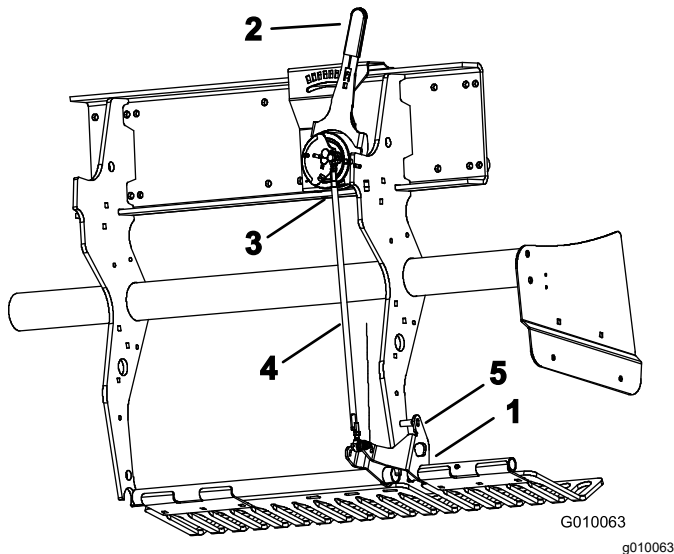

Figure 60
2. Rotate the left turf guard mounting bracket (Figure 60) up until you can insert a locking pin, such as an 8 mm (5/16 inch) drill rod or bolt, between the bracket and the depth setting tube welded to the frame.
3. Move the tine depth lever (Figure 60) to the H setting (deepest).
4. Disconnect the outboard ball switch (Figure 60) from the wire harness (Head–Low switch).
5. Loosen the jam nuts (left and right) on the depth adjustment tie rod (Figure 60).